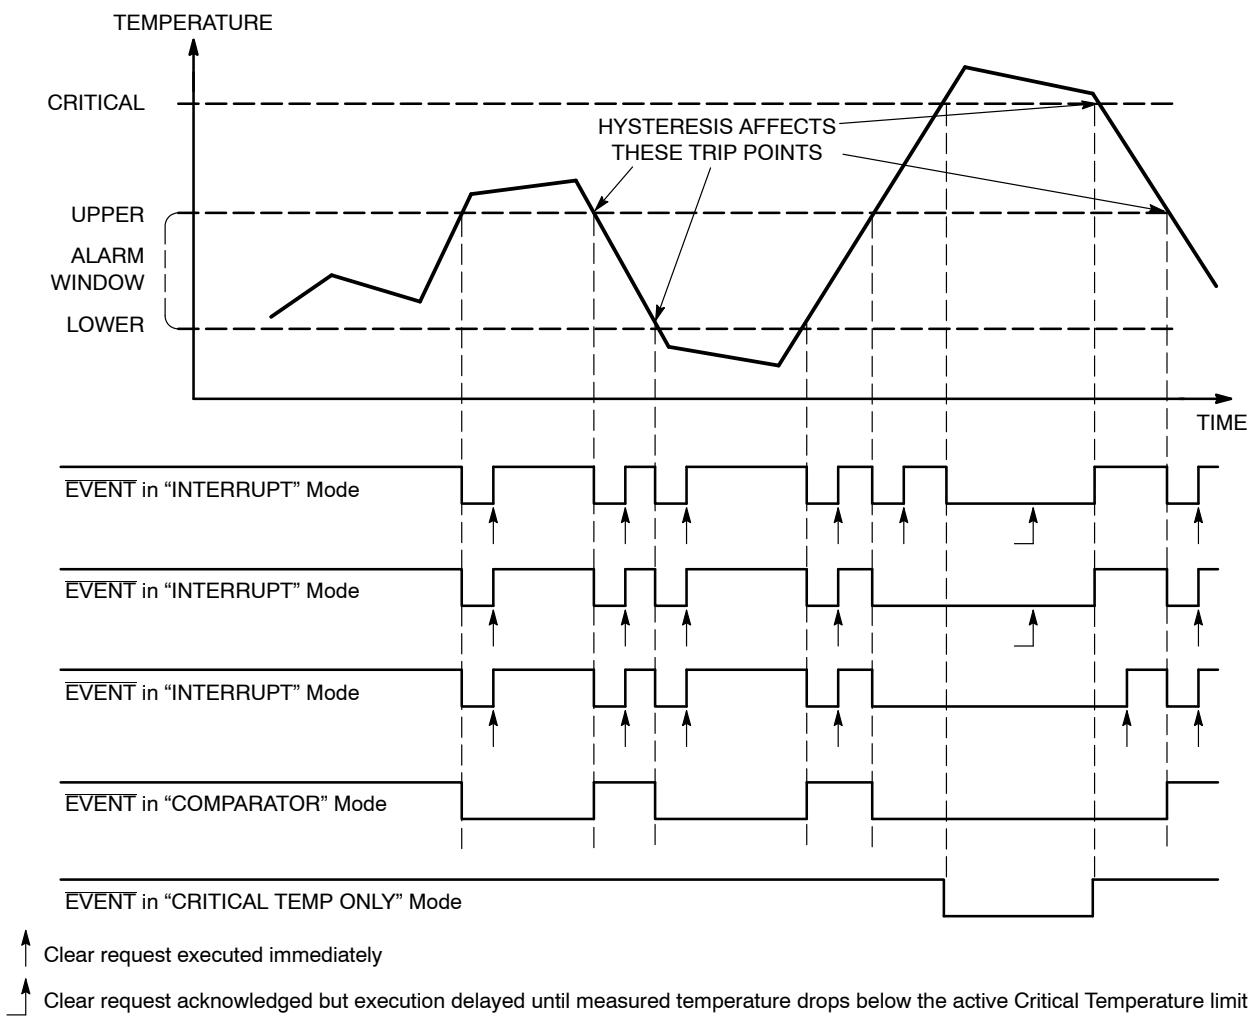

Figure 9. Event Detail
13. Writing a '1' to this bit clears an event condition in Interrupt mode, but has no effect in comparator mode. When read, this bit always returns 0. Once the measured temperature exceeds the critical limit, setting this bit has no effect (see Figure 9).
The EVENT output reacts to temperature changes as illustrated in Figure 9, and according to the operating mode defined by the Configuration register.